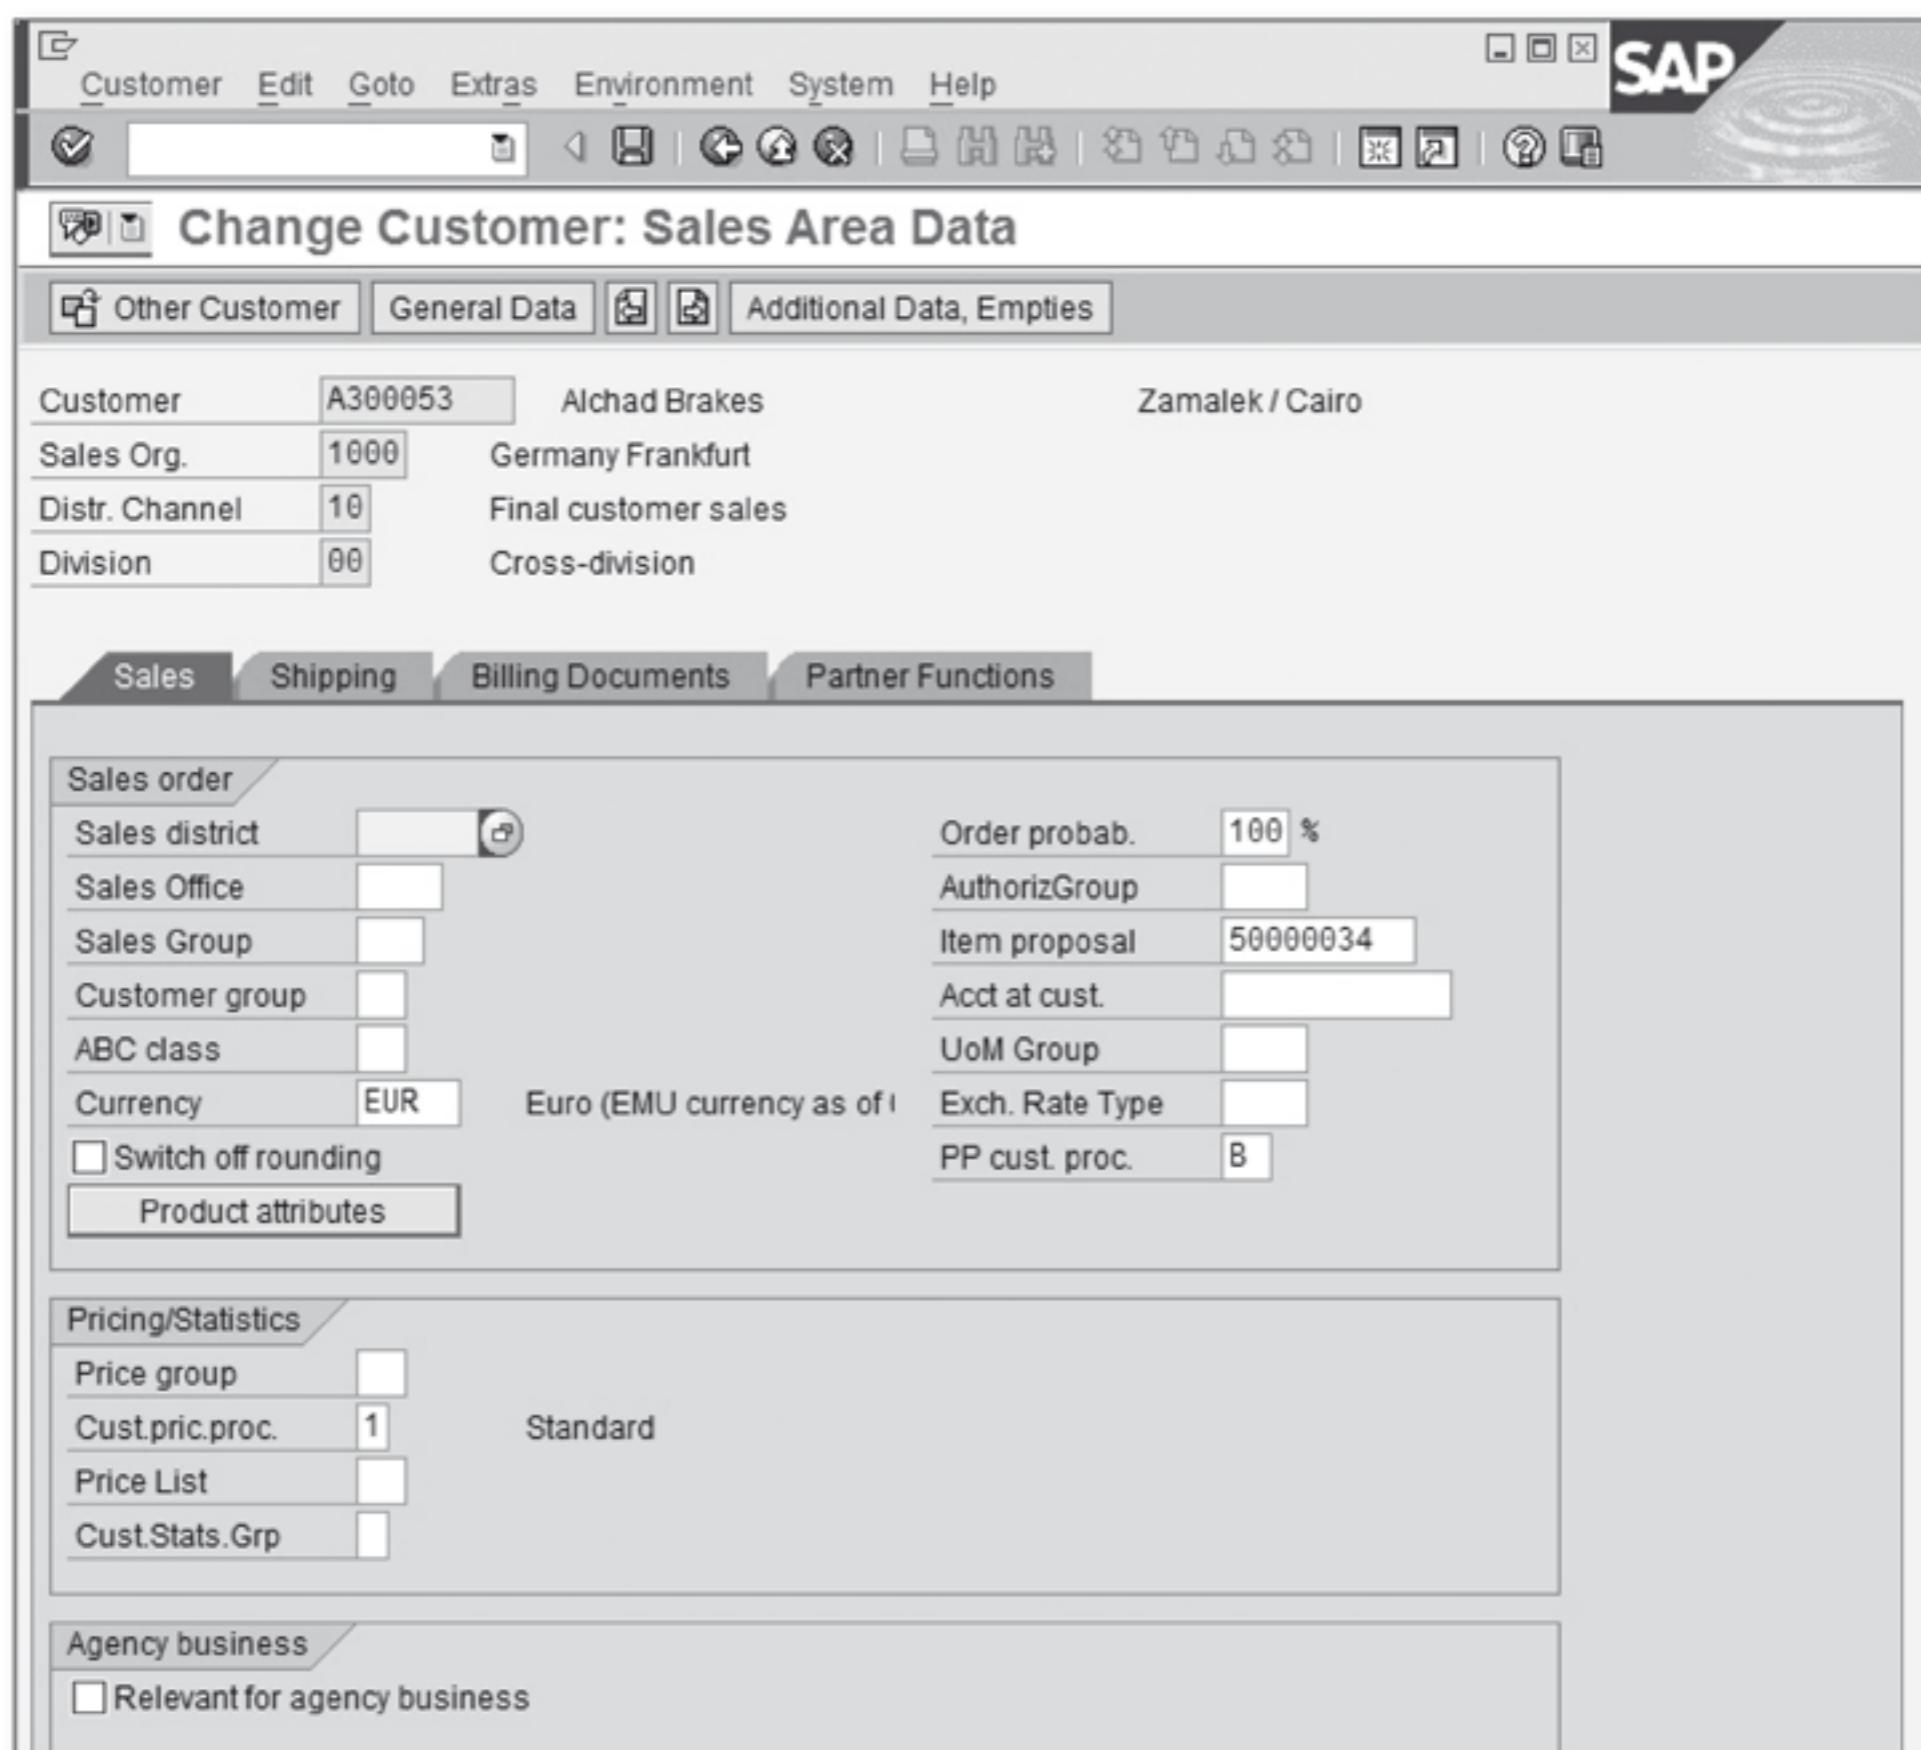

Figure 2.10 Change Customer Sales Area Data Screen
2. In the Sales Area, select the Sales tab, enter the Item Proposal number in the Sales Order section, and save your data, as shown in Figure 2.10.